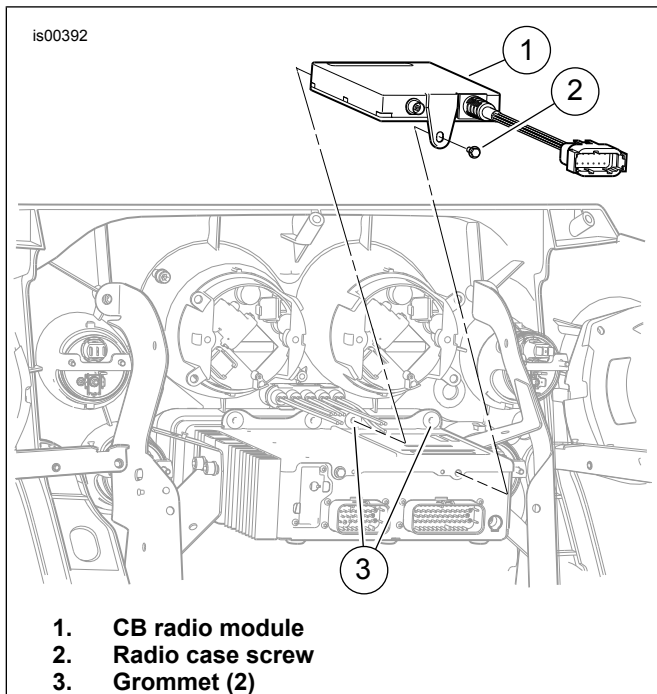

Figure 1. CB Radio Module Installation
3. See Figure 1. Locate the CB radio module (1) on top of the AM-FM radio case:
- a. Remove the screw (2) at the back of the radio.
- b. Position the CB radio module on top of the AM-FM radio, with the metal cones on one end of the module fitting firmly into the rightmost rubber grommets (3) at the front of the radio.
- c. Fasten the module to the radio with the radio case screw (2). Tighten to 35-45 **in-lbs** (4.0-5.1 Nm).